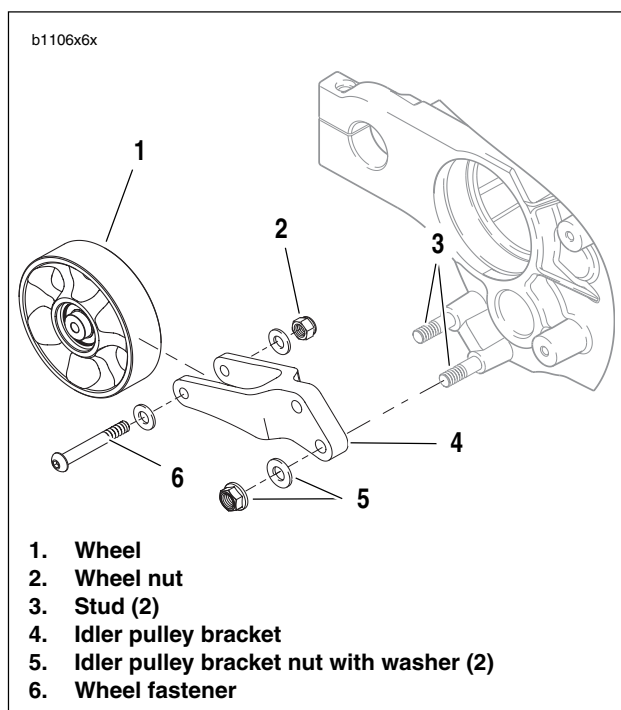

Figure 6-92. Idler Pulley Assembly
4. See Figure 6-92. Remove both bracket nuts with washers (5) attaching idler pulley bracket (4) to studs (3).
6. Inspect pulley by spinning wheel (1) and checking for excessive wheel bearing wear.
7. If pulley wheel needs replacement, remove fastener (6) and nut (2) from idler pulley bracket (4) and discard. Replace with **new** pulley wheel (1).